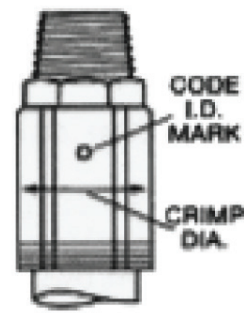

FIG. 2
2. Measure halfway between the ends of crimped portion of the ferrule (Fig 2).